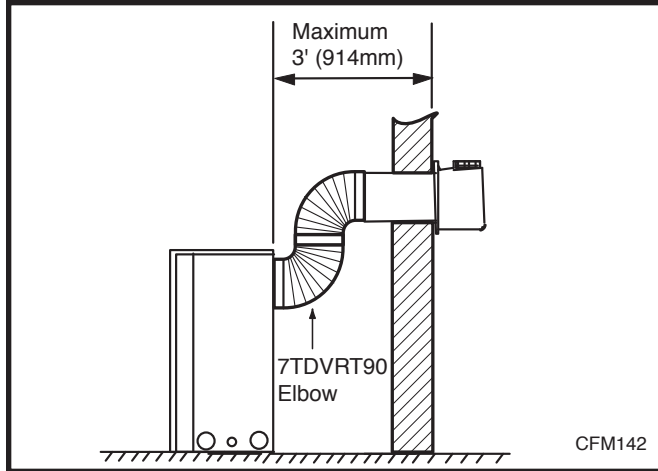
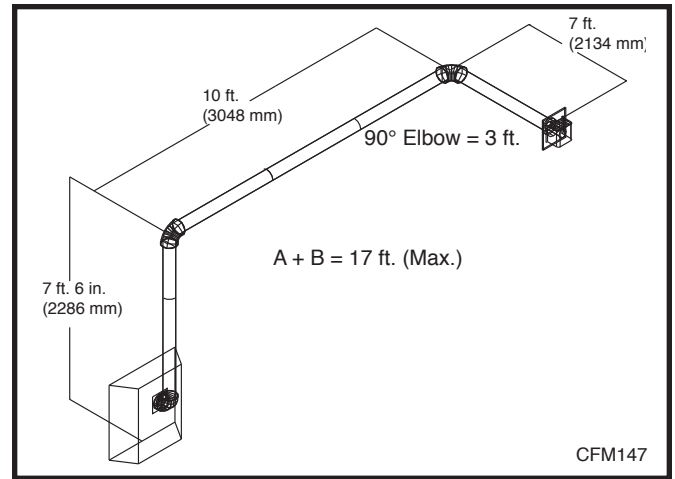

Fig. 22 Maximum horizontal vent run.
Fig. 23 Maximum vent run with elbows.
- If a 90° elbow is used in the horizontal vent run (level height maintained) the maximum horizontal vent length is reduced by 36" (914 mm). (Fig. 22) This does not apply if the 90° elbows are used to increase or redirect a vertical rise. (Fig. 23)
Example: According to the chart the maximum horizontal vent length in a system with a 7.5' (2.3m) vertical rise is 20' (6 m) and if a 90° elbow is required in the horizontal vent it must be reduced to 17' (5.2 m). In Figure 23 Dimension A plus B must not be greater than 17' (5.2 m).